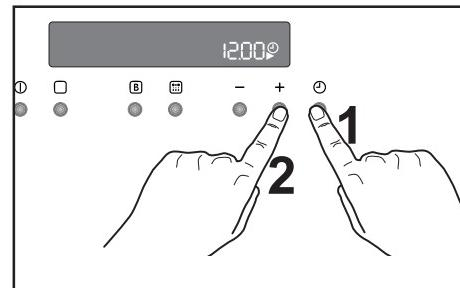

Fig. 1
1) Press button and, while the symbol is flashing, set the correct time of day by pressing buttons “” or “” (Fig. 1).